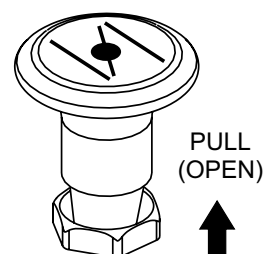

Figure 23. Choke Lever (OPEN Position)
5. In normal weather conditions, place the choke lever in the **OPEN** position (Figure 23).